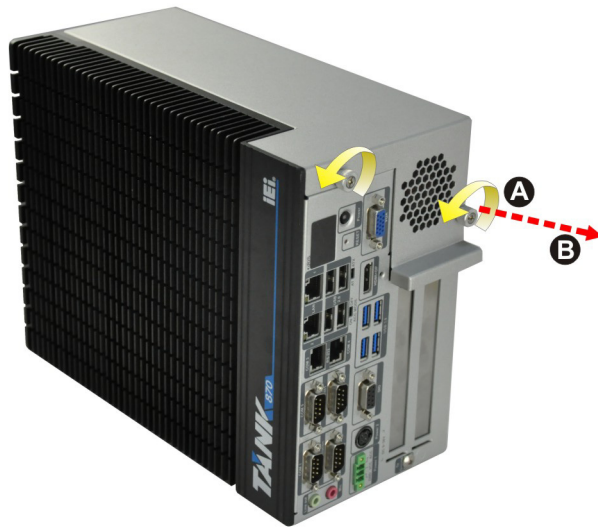

Figure 3-1: Unscrew the Cover
- Step 1:** Loosen the two thumbscrews on the front panel, slide the cover outward, and then lift the cover up gently (**Figure 3-1**).